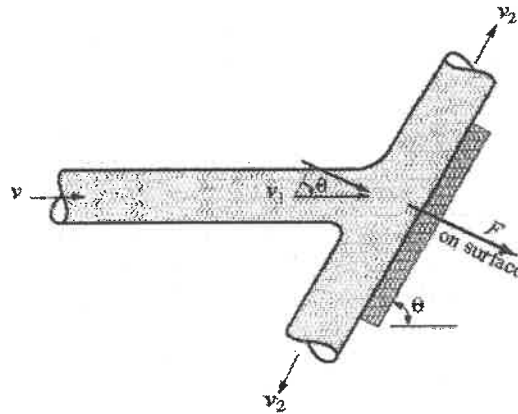

Figure 5
- (a) A steam jet of 30 mm in diameter and velocity of 90 m/s strikes a flat plate inclined at an angle of 20° as shown in Figure 5. The specific volume of the steam is $1.69 \text{ m}^3/\text{kg}$. Determine the magnitude and the direction of force exerted on the plate.